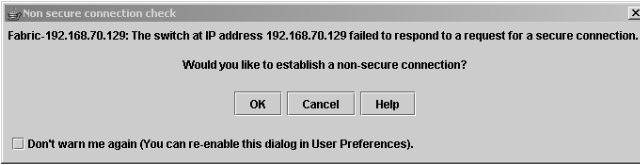

Figure 26. McDATA SANbrowser nonsecure connection check window
8. If the switch module is not configured for a secure connection, click **OK**, as shown in Figure 26.